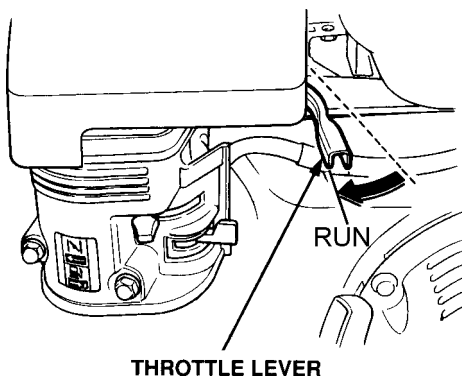

Figure 13. Throttle Lever (Run)
9. To begin pumping, place the throttle lever (Figure 13) in the **"RUN"** position.